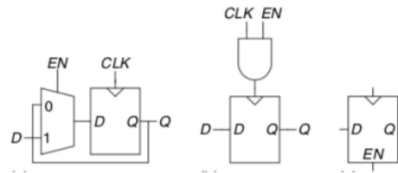

Figure 5: Enabled Flip-Flop
5. **Enabled Flip-Flop (figure 5):** When EN is FALSE, the enabled flip-flop ignores the clock and retains its state.